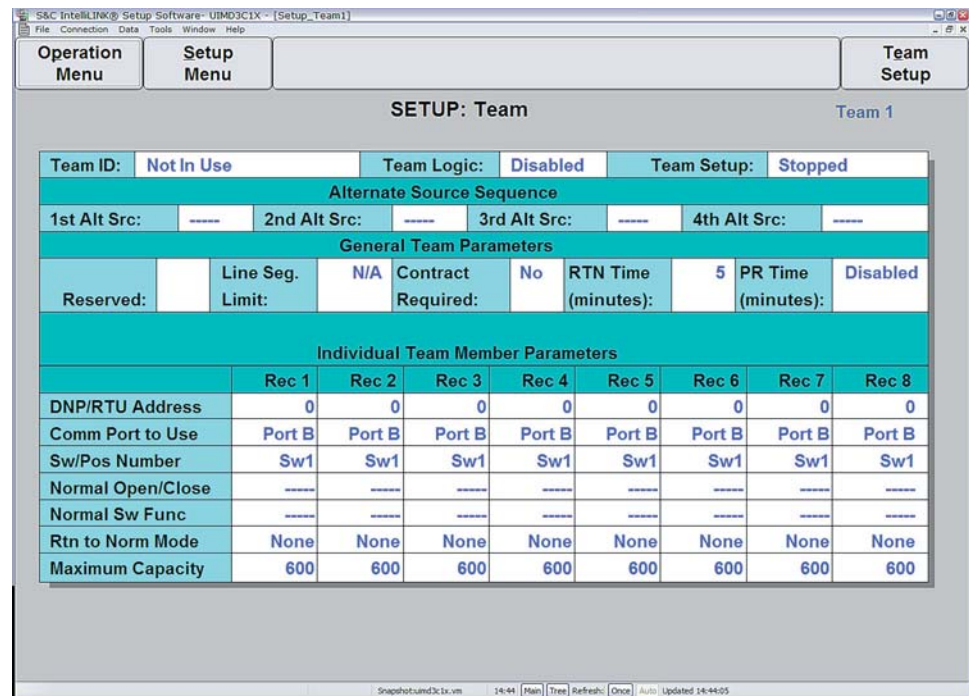

Figure 21. Individual Team Setup Screen for the Universal Interface Module.
21. From the Team Setup Menu screen (the previous screen) click the **SETUP: Team 1** button (choose the number of the team you wish to configure) to display the **SETUP: Team** screen for the selected team (Figure 21). Enter the correct values for the Interface Module.